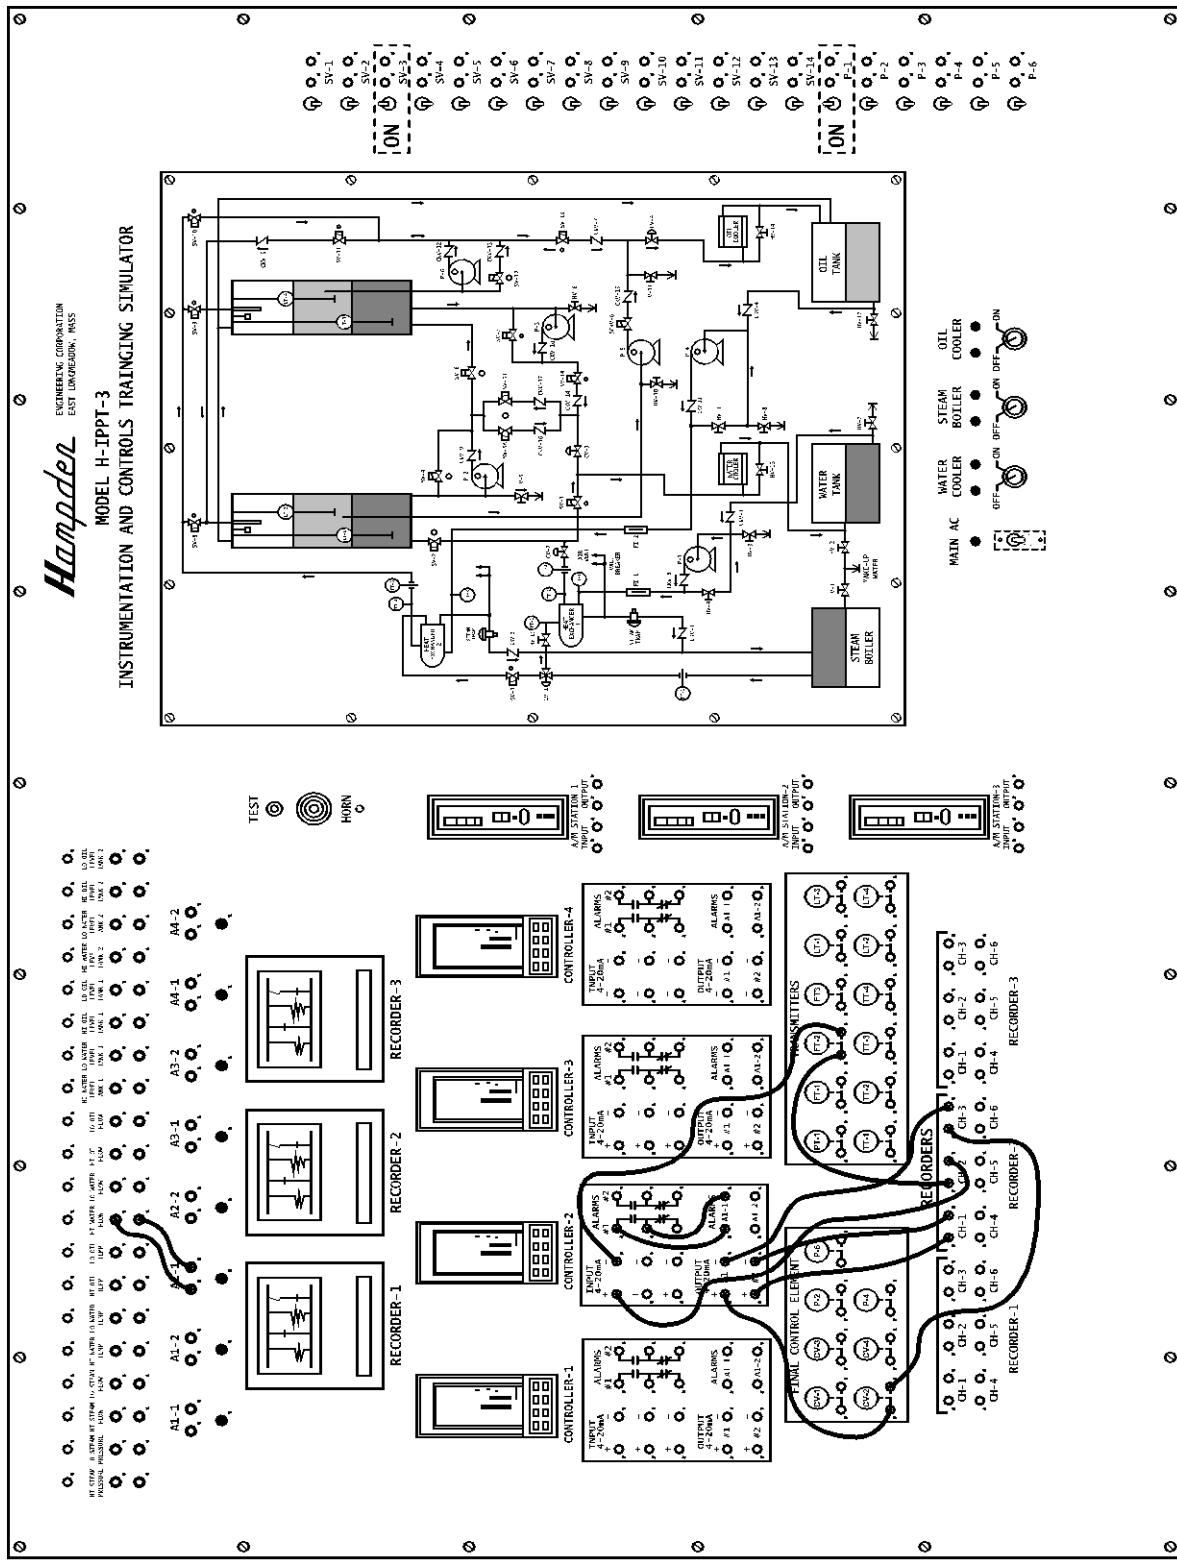

Figure 1: H-IPPT-3 Control Panel
5. Interconnect the process control equipment per Figure 1.